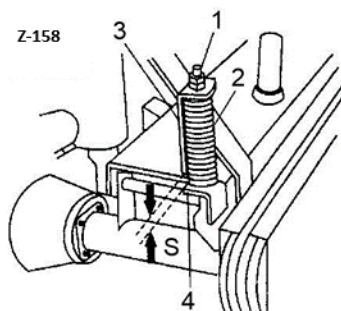

Fig. 16. V-belt tightener: 1 - adjustment nuts, 2 - tightener spring, 3 - tightener indicator bar, 4 - tightener bracket, S (dimension) = 0.5-3 mm.
The mower is equipped with spring V-belt tensioner which is fitted with spring tensioning indicator (3) (Fig. 16). Belts are properly tensioned if gap between indicator (3) and tensioner bracket surface (4) (dimension S) is 0.5 - 3 mm. In case of damage or elongation of at least one belt (in order to keep equal length) always replace the whole set of belts (all pcs with the same dimension marking and trademark).